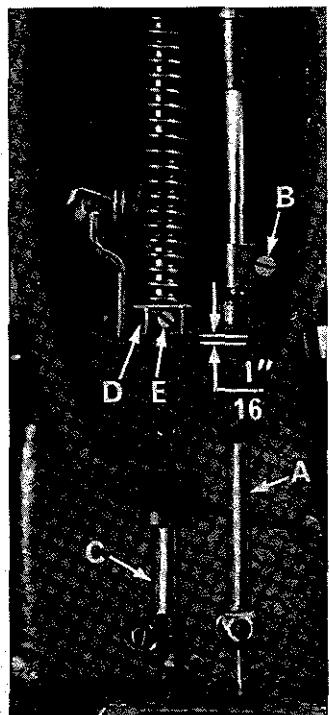
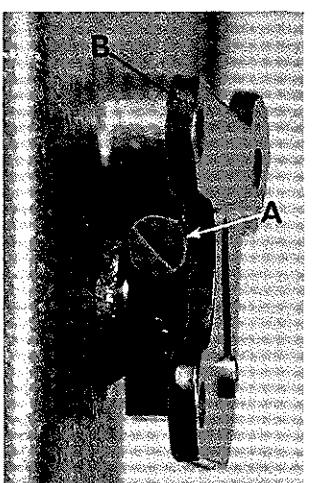

Fig. 4
Fig. 12
Align the needle bar (A, Fig. 4) and set to height, using the proper test pins and test plate of the right gauge.
If test plate and test pins are not available, insert a new set of needles (Type and Size as required) and align the needle bar so that the needles correspond with the vertical face of the needle guard. To turn needle bar, loosen needle bar clamp screw (B, Fig. 4) and turn bar as required. Tighten clamp screw.
with the looper point flush with the left side of the left needle. If adjustment is necessary, loosen screw (B, Fig. 4) and move needle bar (A) up or down as required and retighten screw. Care should be taken not to disturb the alignment of the needle bar when moving the needle bar either up or down.
If adjustment is needed, loosen tension release lever screw (A, Fig. 12), located at the back of the machine and move tension disc separator as required. Retighten screw. After adjustment there should be no binding at any point.
The height of the presser bar (C, Fig. 4) is set correctly if it is possible to remove the presser foot when the foot lifter lever (B, Fig. 12) is fully depressed. Also there should be approximately $1/16$ inch clearance between lower surface of the presser bar connection and guide (D, Fig. 4) and the bottom surface of head opening in the bed when the foot lifter lever is released and the presser foot resting on the throat plate, with the feed dog down below the throat plate.